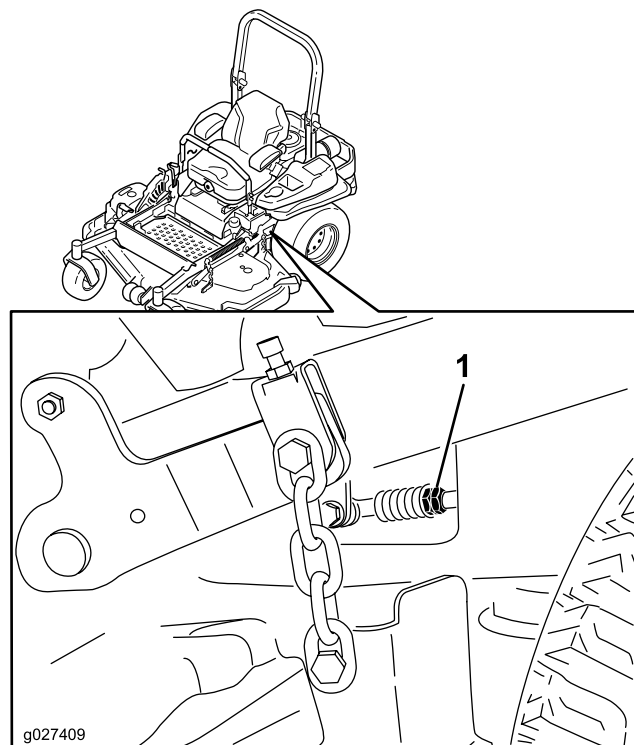

Figure 100
10. Adjust the pump-control-rod lengths by rotating the double nuts on the rod in the appropriate direction until the wheels slightly creep in reverse (Figure 100).